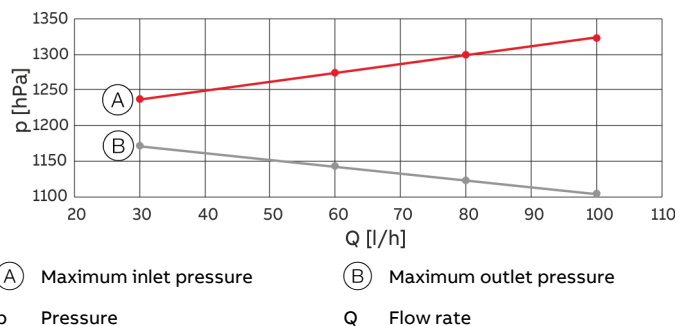

Figure 1: Max. pressure hPa abs. for internal pressure 1200 hPa abs.
- Maintaining the pressure limits for the sample gas inlet and -outlet in accordance with Figure 1.